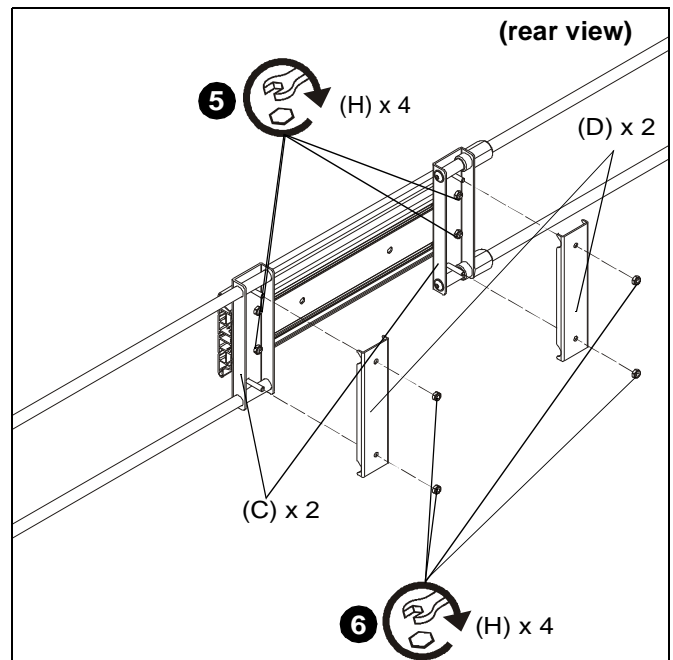

Figure 10
5. Tighten four 1/4-20 hex nuts (H) holding t-slot studs (F) to clamp brackets (C). (See Figure 10)
6. Use four 1/4-20 hex nuts (H) to secure two clamp covers (D) to two clamp brackets (C). (See Figure 10)